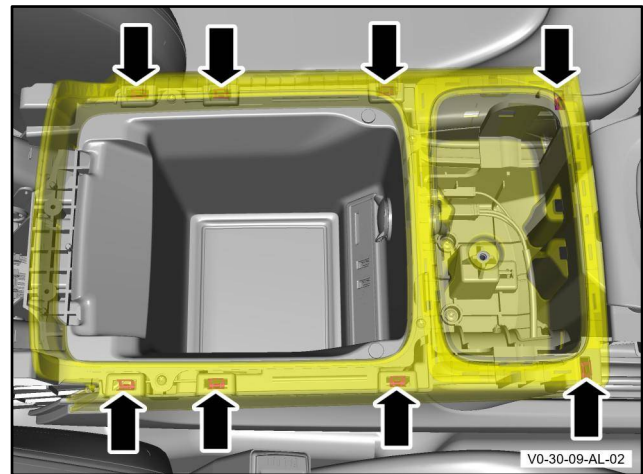

Figure 11
5. Release the eight clips that attach the cup holder assembly to the centre console assembly (refer to Figure 11).